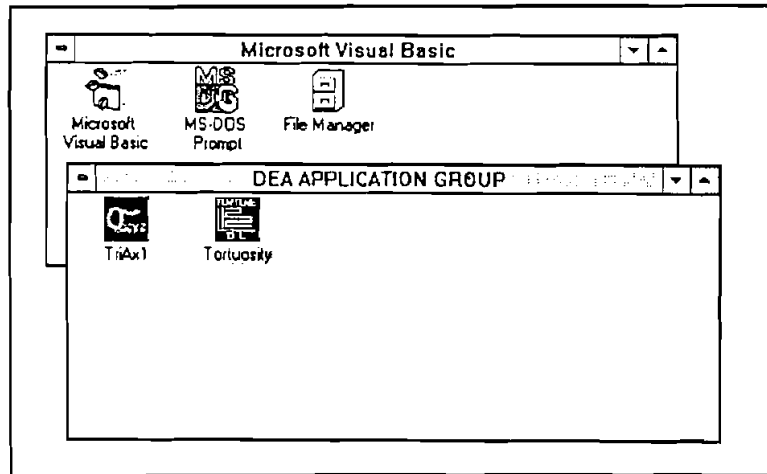

Figure 4-3. DEA Application Group (MEI) and TRIAX1 Icon
1. Call up Windows and select "DEA APPLICATION GROUP" as the active window, as shown in Figure 4-3.